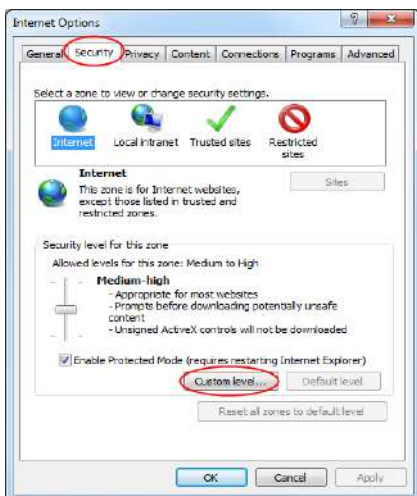

Fig 10-1
① Open IE browser. Click  → Internet Options.
- ② Select Security → Custom Level. Refer to Fig 10-1.